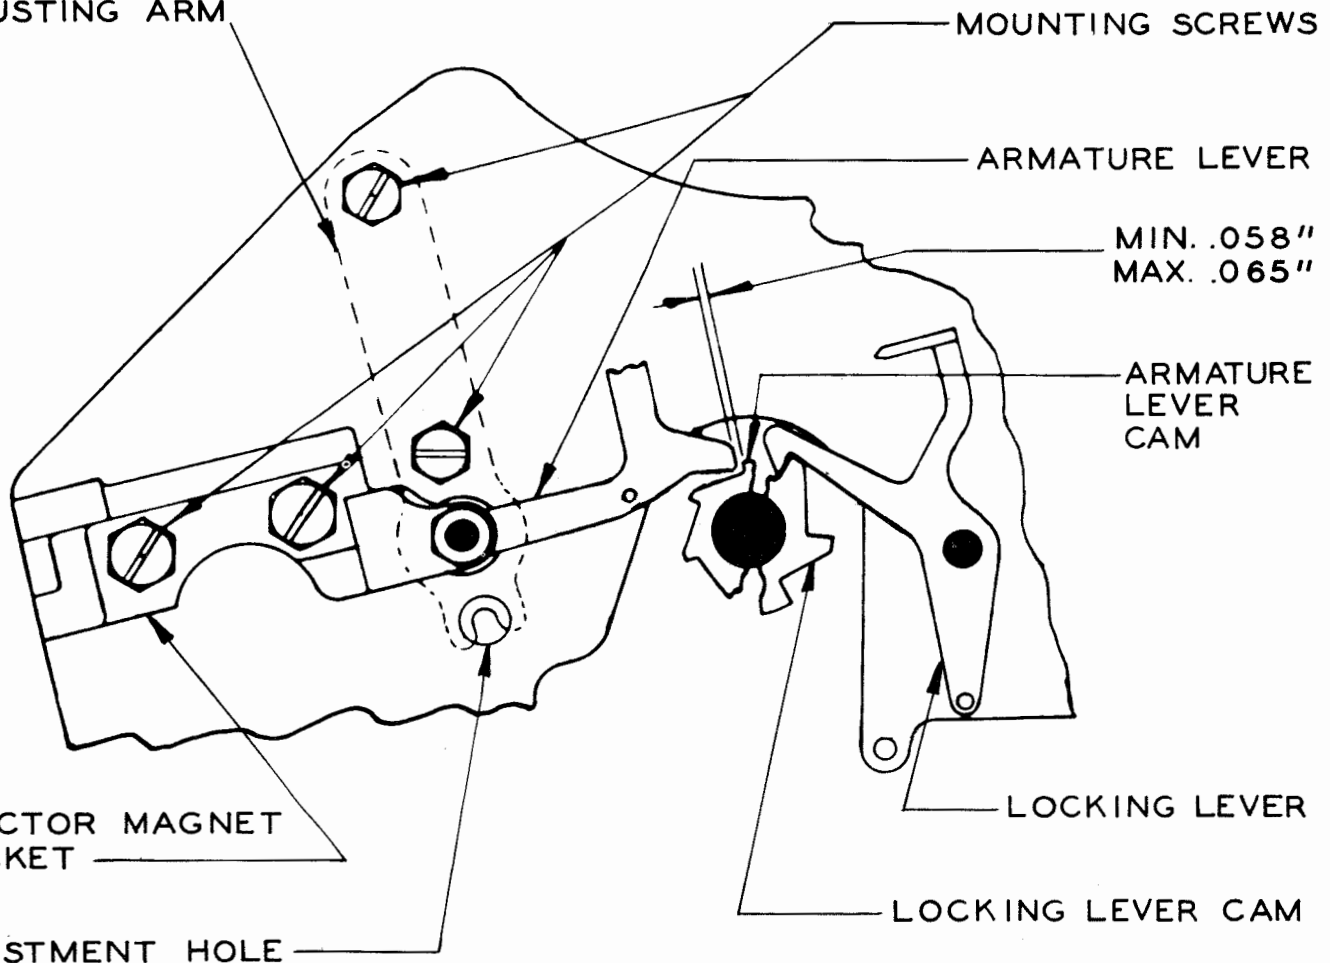

Figure 10
2.13 Armature Lever: The end of the armature lever (holding magnet) should clear the face of a cam tooth by minimum 0.058 inch, maximum 0.065 inch, as indicated in Figure 10, when the locking lever has just dropped off a long high part of its cam, the cam is held back against the locking lever, and the selector arm